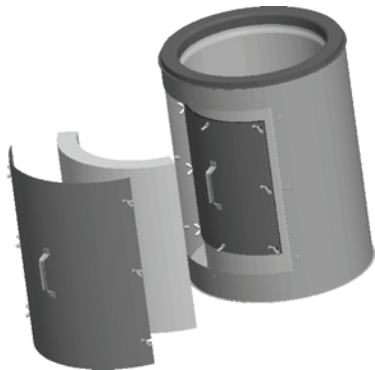

Figure 74
2. Remove the outer door from the outer wall of the duct and set it in a safe place during the inspection (*see figure 74*).
3. Remove the insulation pad and set it in a safe place during the inspection (*see figure 74*).